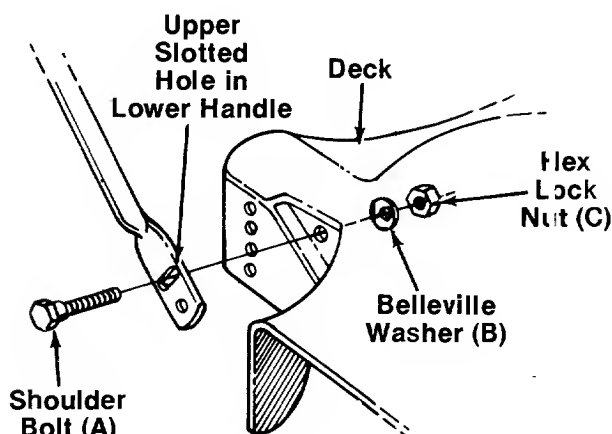

FIGURE 2.
1. Line up the upper slotted hole in lower handle with the mounting hole on deck and the hole in the rear baffle (on the inside of the deck). Make certain the instruction label on the lower handle can be read from the operating position. Place shoulder bolt (A) through lower handle, deck and baffle. See figure 2. Place belleville washer (B) on the shoulder bolt, with the cupped side of the washer against the deck. Secure with hex lock nut (C).